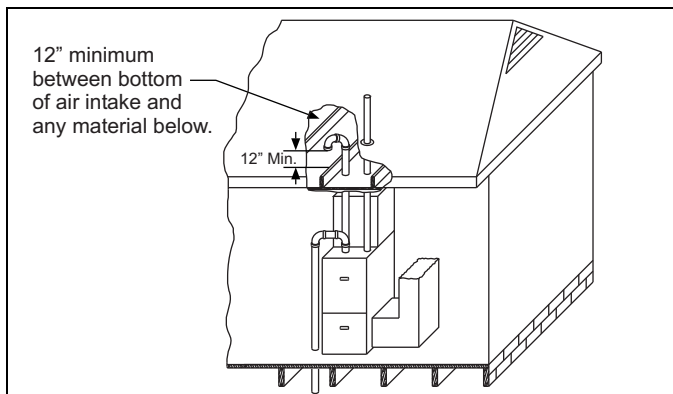

FIGURE 39: Attic and Crawl Space Combustion Air Termination
3. **VENTILATED COMBUSTION AIR:** Combustion air is supplied through a PVC or ABS pipe that is connected to the PVC coupling attached to the burner box and is terminated in a ventilated attic or crawl space. The combustion air and the vent pipes are not terminated in the same atmospheric zone. Refer to Figure 39 for attic and crawl space termination. Only the combustion air intake may terminate in the attic. The vent must terminate outside.
Refer to Figure 39 for required attic termination for the combustion air intake pipe. For attic termination, use two 90 elbows with the open end in a downward position. Be sure to maintain 12" (30.5 cm) clearance above any insulation, flooring or other material.